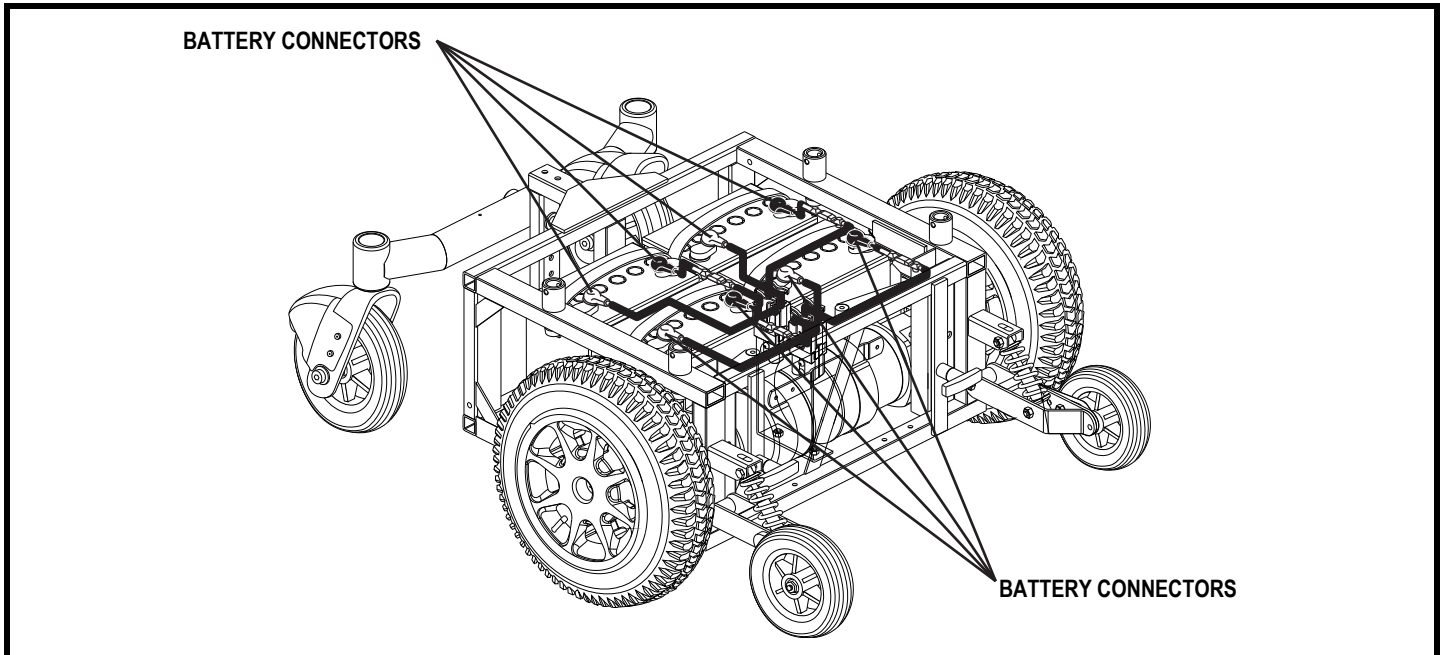

Figure 22. Quantum 1650 Battery Connections (4-Battery Configuration)
6. Unplug the battery connectors from the power base. See figure 22.